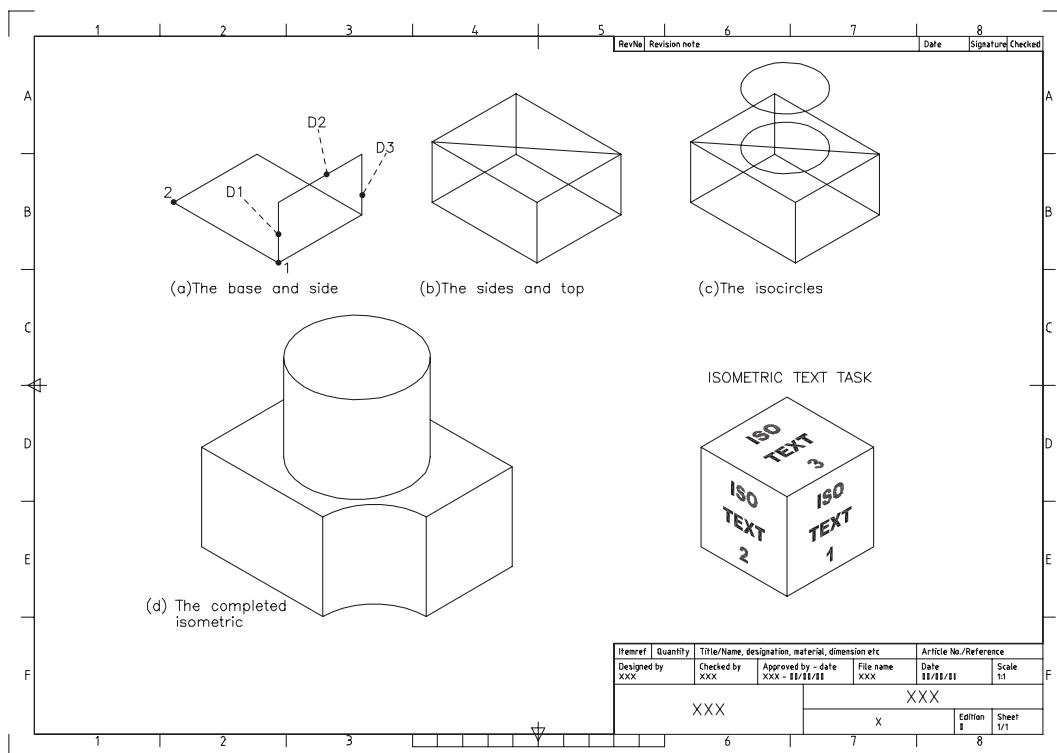

Figure 32.3 Isometric exercise.
- 1 Erase any objects from the screen or re-open your A3PAPER standard sheet and refer to Figure 32.3.
Next point and enter @50<-90 <R><R> – Figure 32.3(a).
- 5 Draw the two lines (endpoint–endpoint) to complete the sides and top then draw a top diagonal line – Figure 32.3(b).
2. by @50<90 – Figure 32.3(c).
- 8 Draw two additional 30 radius isometric circles and modify to give the completed model as Figure 32.3(d).
- c) refer to the task drawing in Figure 32.3 and: